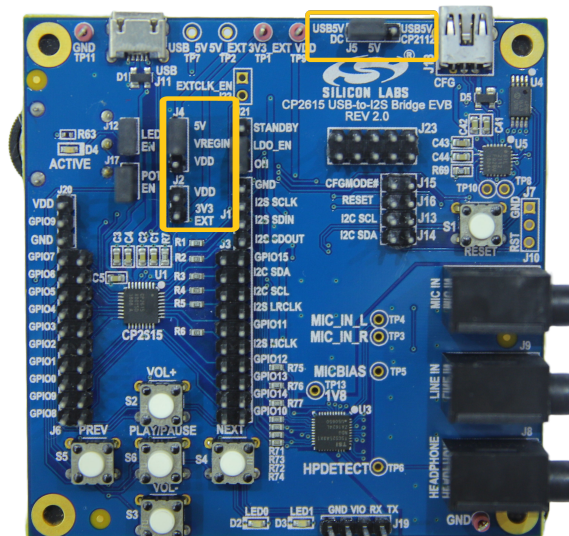

Figure 2.3. USB Bus-Powered Configuration
- Removed Figure 2.3 Power Jumpers